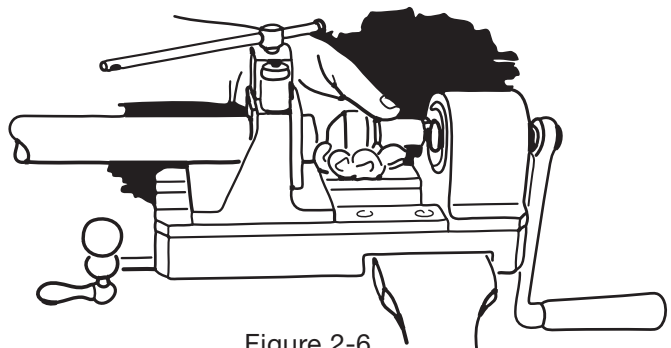

Figure 2-6
a. Place internal deburring tool in spindle opening, engaging pin with hole in spindle. (See figure 2-6.)